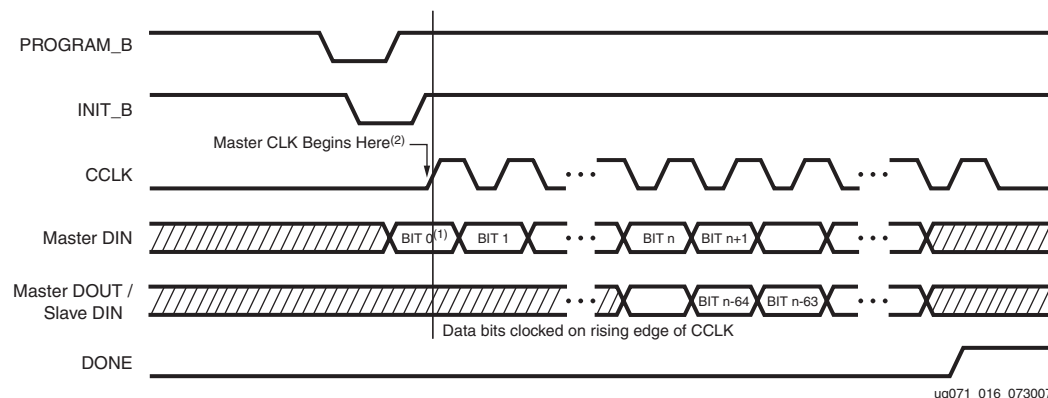

Figure 2-2: Serial Daisy Chain Configuration Clocking Sequence
Figure 2-2 shows how configuration data are clocked into Virtex-4 devices in Slave serial and Master serial modes.
Notes relevant to Figure 2-2:
1. In Figure 2-2, bit 0 represents the MSB of the first byte. For example, if the first byte is 0xAA (1010_1010), bit 0=1, bit 1=0, bit 2=1, etc.